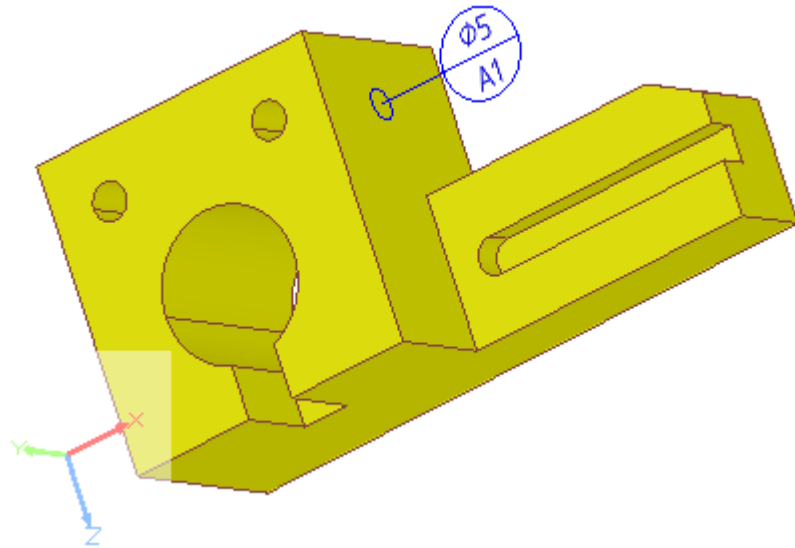

Figure 4. Datum target circular curve with leader line and symbol
-  **Circular Curve Datum Target** - to open the Create Target Circular Curve Wizard. The Figure 4 displays, how the created datum target (circular curve) is presented on the geometry model in the  **3D View**.